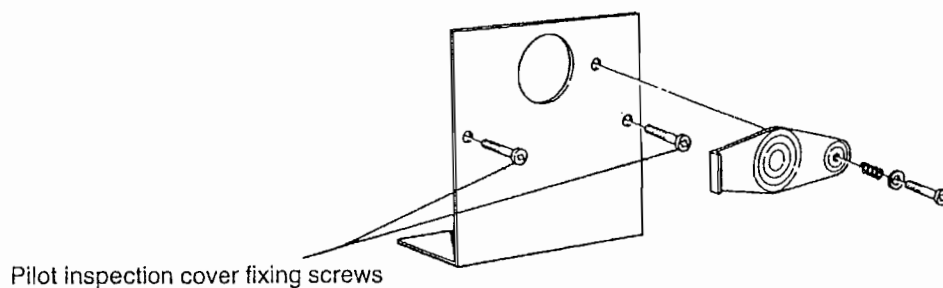

Fig. 32
- d) Remove the pilot inspection cover 2 screws (fig. 32).
- e) Remove the pilot pipe/thermocouple retaining plate, 2 screws (fig. 32).
- Remove pilot inspection cover, 2 screws (fig.32).